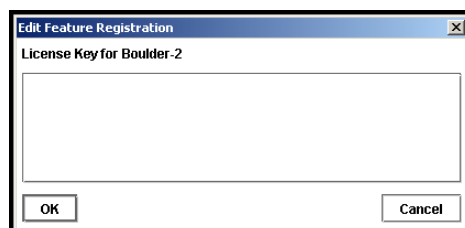

Figure 216. Entering License Key
4. Select an SSM and click Edit License Key. The Edit Feature Registration window opens, shown in Figure 216.